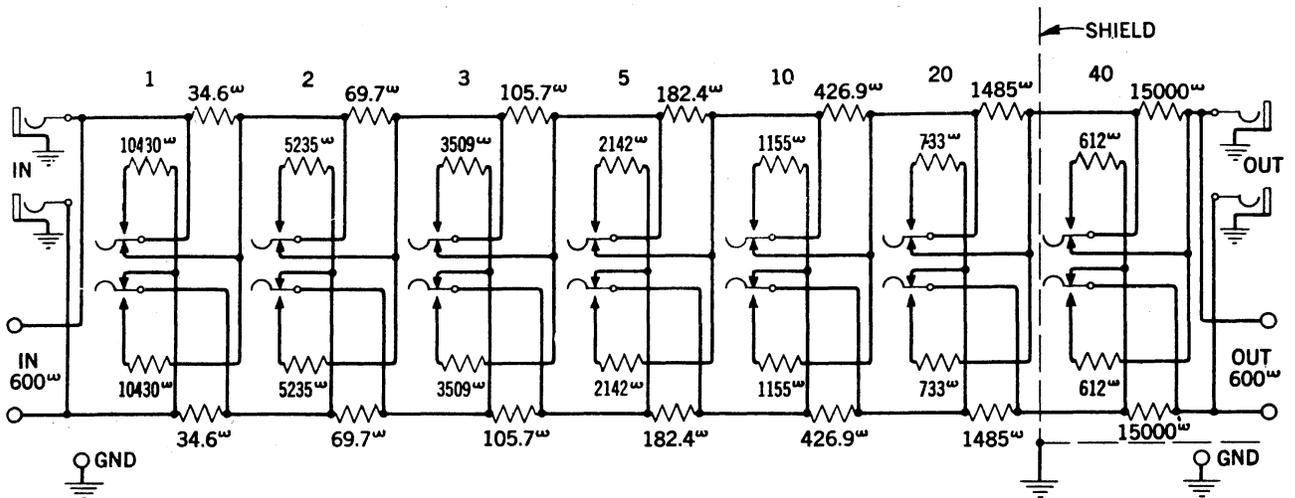

Fig. 1 - Schematic Circuit
2.01 The circuit of the 5A attenuator, which is also given on a circuit label fastened inside the box which houses the attenuator, is shown schematically in Fig. 1.